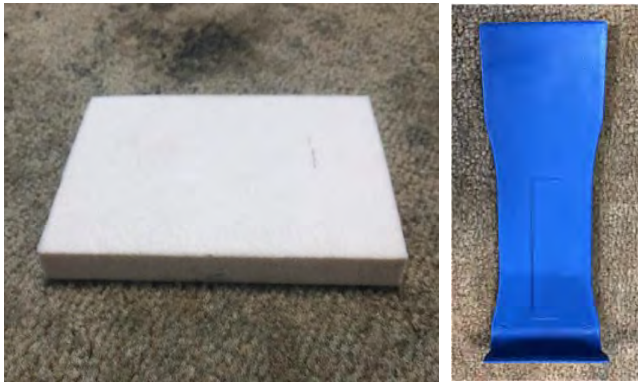

Figure 48
**Use a Felt block or wide Moulding Remover. Figure 48.**